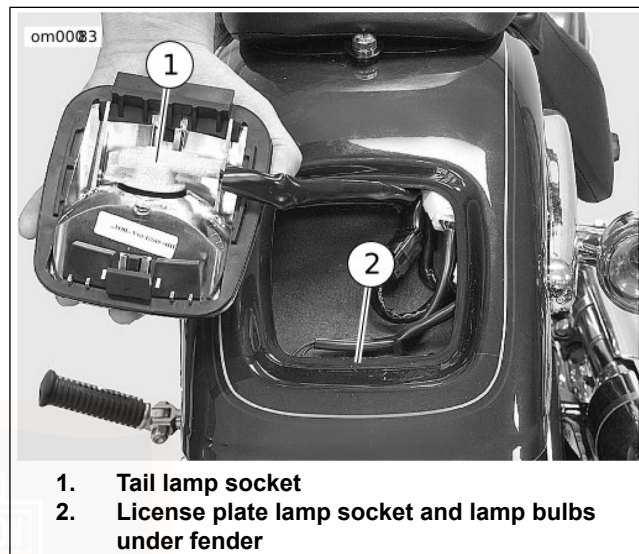

Figure 73. Tail Lamp Removed: FXSTD Models
2. See Figure 73. Lift the tail lamp assembly upward exposing the electrical connectors, tail lamp socket and the two license plate lamp sockets.
2. See Figure 73. Remove the license plate lamp bulb socket by twisting the bulb socket out of the license plate bulb holder.